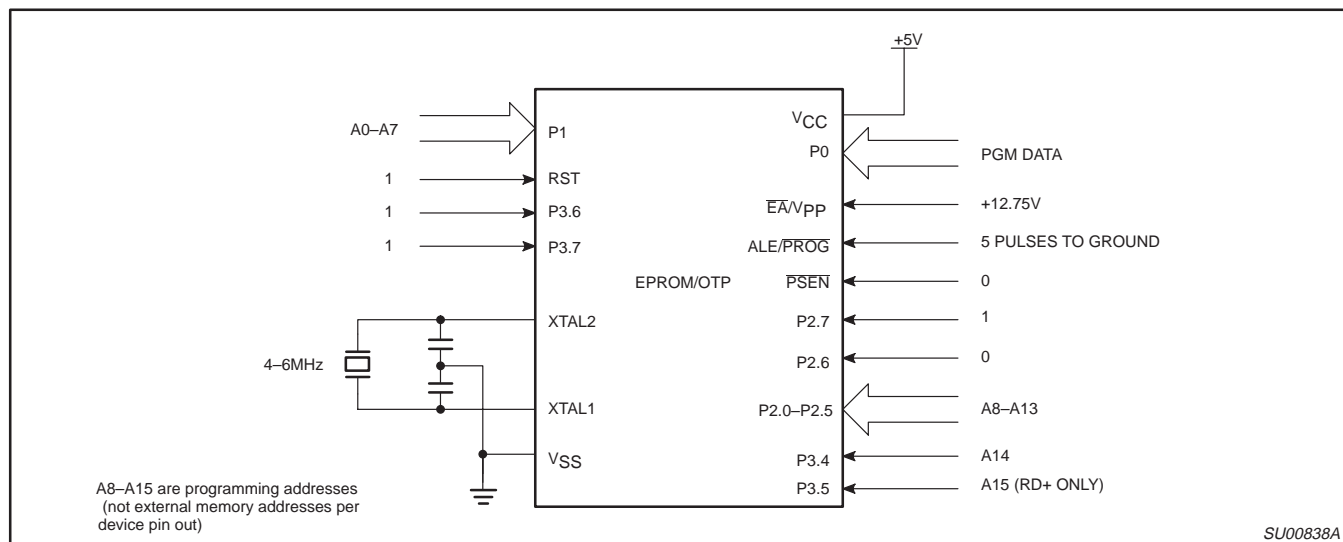
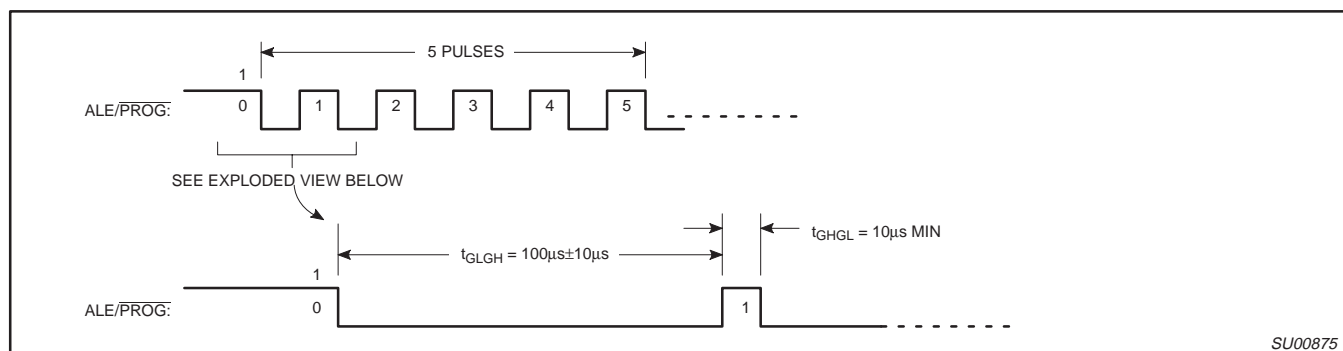
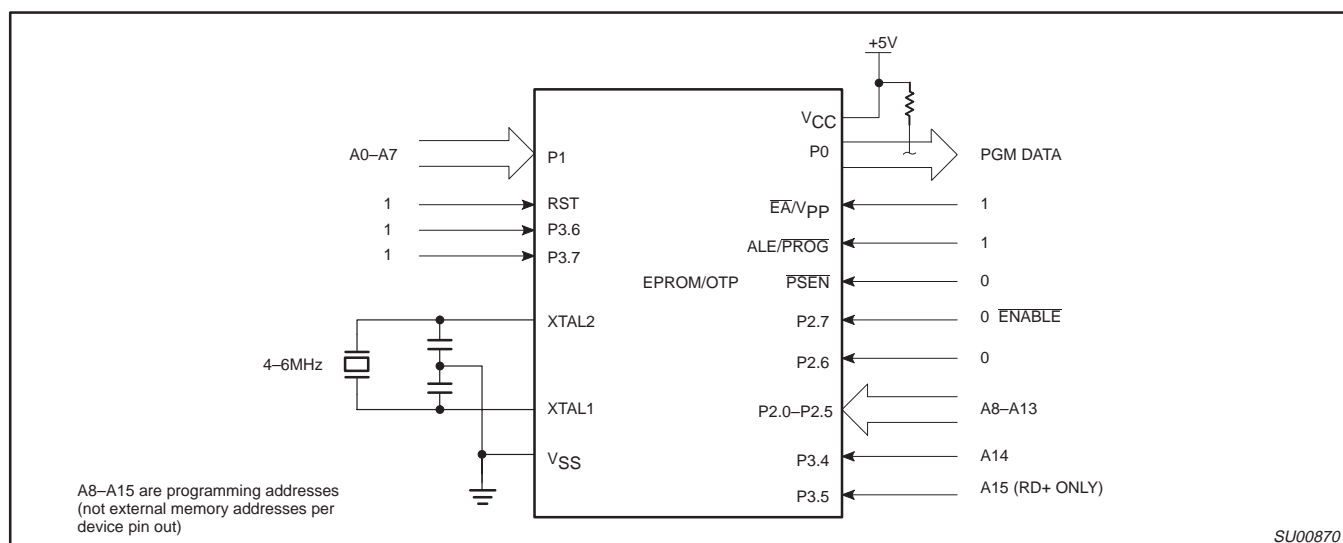

Figure 41. Programming Configuration
Figure 42. PROG Waveform
Figure 43. Program Verification
Table 9 shows the logic levels for reading the signature byte, and for programming the program memory, the encryption table, and the security bits. The circuit configuration and waveforms for quick-pulse programming are shown in Figures 41 and 42. Figure 43 shows the circuit configuration for normal program memory verification.
The setup for microcontroller quick-pulse programming is shown in Figure 41. Note that the device is running with a 4 to 6MHz oscillator. The reason the oscillator needs to be running is that the device is executing internal address and program data transfers.
The address of the EPROM location to be programmed is applied to ports 1 and 2, as shown in Figure 41. The code byte to be programmed into that location is applied to port 0. RST, \overline{PSEN} and pins of ports 2 and 3 specified in Table 9 are held at the 'Program Code Data' levels indicated in Table 9. The ALE/PROG is pulsed low 5 times as shown in Figure 42.
If security bits 2 and 3 have not been programmed, the on-chip program memory can be read out for program verification. The address of the program memory locations to be read is applied to ports 1 and 2 as shown in Figure 43. The other pins are held at the 'Verify Code Data' levels indicated in Table 9. The contents of the address location will be emitted on port 0. External pull-ups are required on port 0 for this operation.
* FOR PROGRAMMING CONFIGURATION SEE FIGURE 41.
FOR VERIFICATION CONDITIONS SEE FIGURE 43.